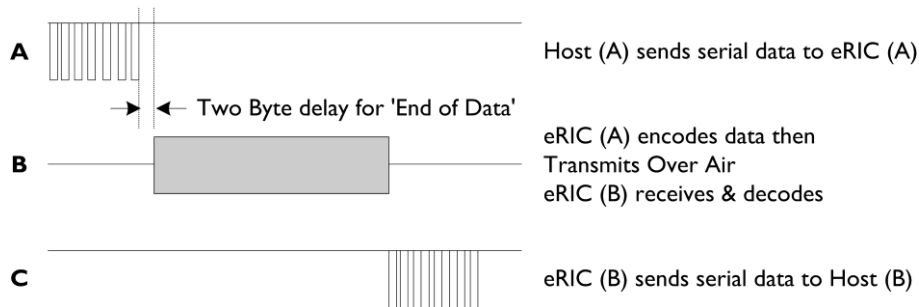

Figure 5 Timing Diagram
- Host (A) sends serial data to eRIC (A). The data must be continuously streamed (no breaks) at the selected host Baud rate and is loaded into an internal transmit buffer.
- Data within the receive buffer of eRIC (B) will be sent to Host (B) at the selected Baud rate.
Host (A) must allow time for the complete 'Over-Air' transmission and for the receiving Host (B) to unload (and process) the data before sending new data. (See Figure 5). There is no automatic 'RF handshaking' provided by the eRIC transceivers. Radio transmission and reception is bi-directional (half duplex) i.e. transmit OR receive (but not simultaneously) and there is no automatic confirmation of the satisfactory reception of the data.